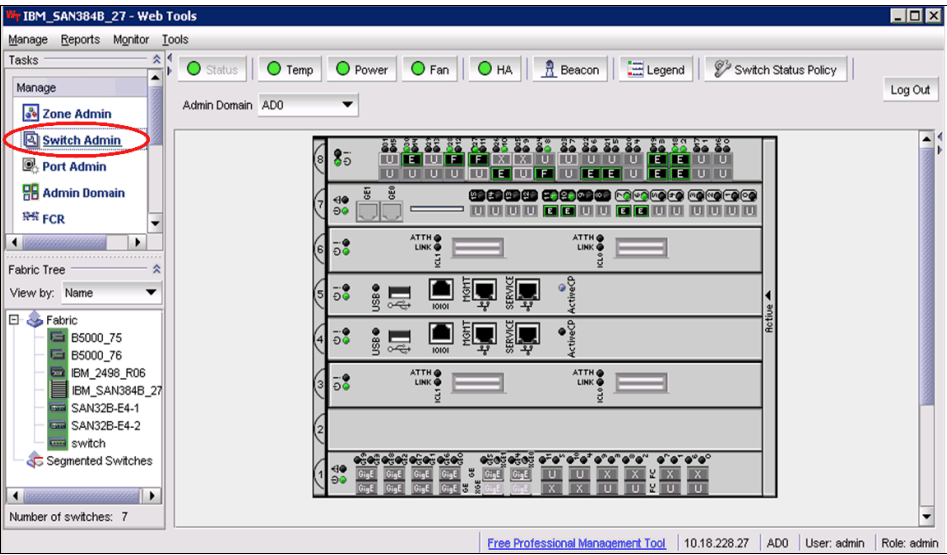

Figure 12-46 Switch Admin
1. Click **Switch Admin** on the Switch Main Page as shown in Figure 12-46.